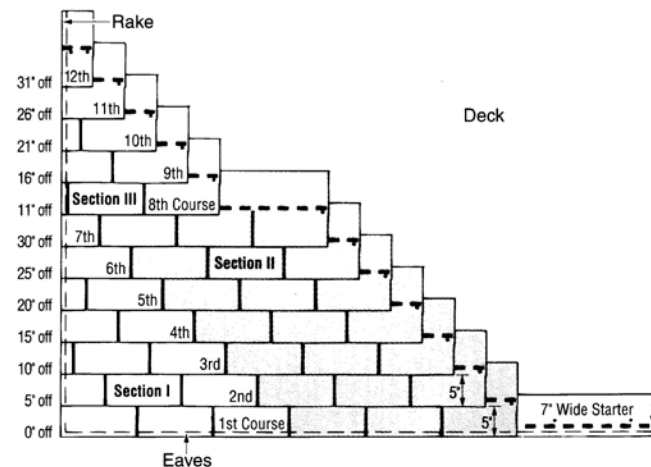

Figure 12-8: Five-Inch, Stepped-Off Diagonal Method.
1. Begin the second course by cutting 5" off the left end of a shingle and applying the 31" piece over the first-course shingle, flush with the left edge of the first-course shingle, and exposing the first course 5" (Figure 12-8).
3. Install "Section II" as shown in Figure 12-8 using full shingles against the seven courses in "Section I." This must be done before continuing with courses eight through 12 ("Section III"). These "Section II" shingles are to be butted-up against the "Section I" shingles that started courses one through seven. Fasten all shingles in the normal fashion.
1. Begin the eighth course by cutting 11" off the left end of a shingle and applying the 25" piece over the seventh-course shingle, flush with the left edge of the seventh-course shingle, and exposing the seventh course 5" (Figure 12-8).